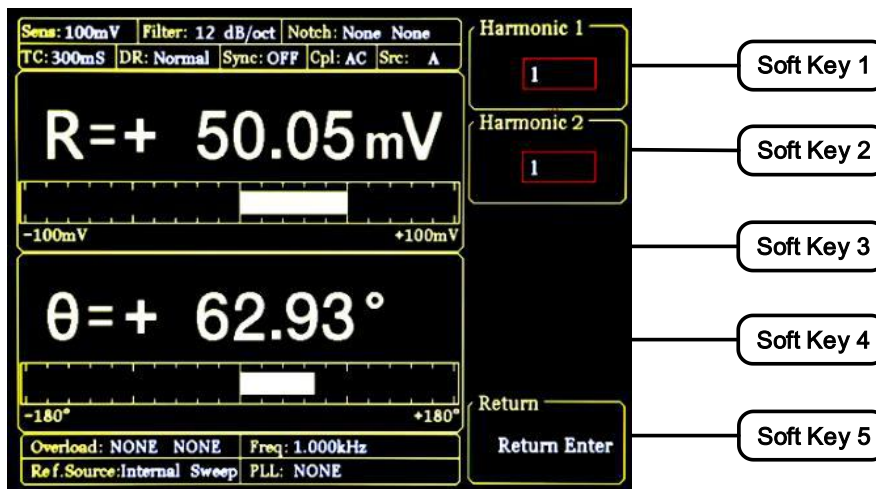

Fig.100 Harmonic Secondary Submenu
The operation steps of measuring the first and third harmonic of the input square wave is below. First, press the [soft key 4] in [REF PHASE] menu to choose [harmonic] submenu as is shown in Fig.100.